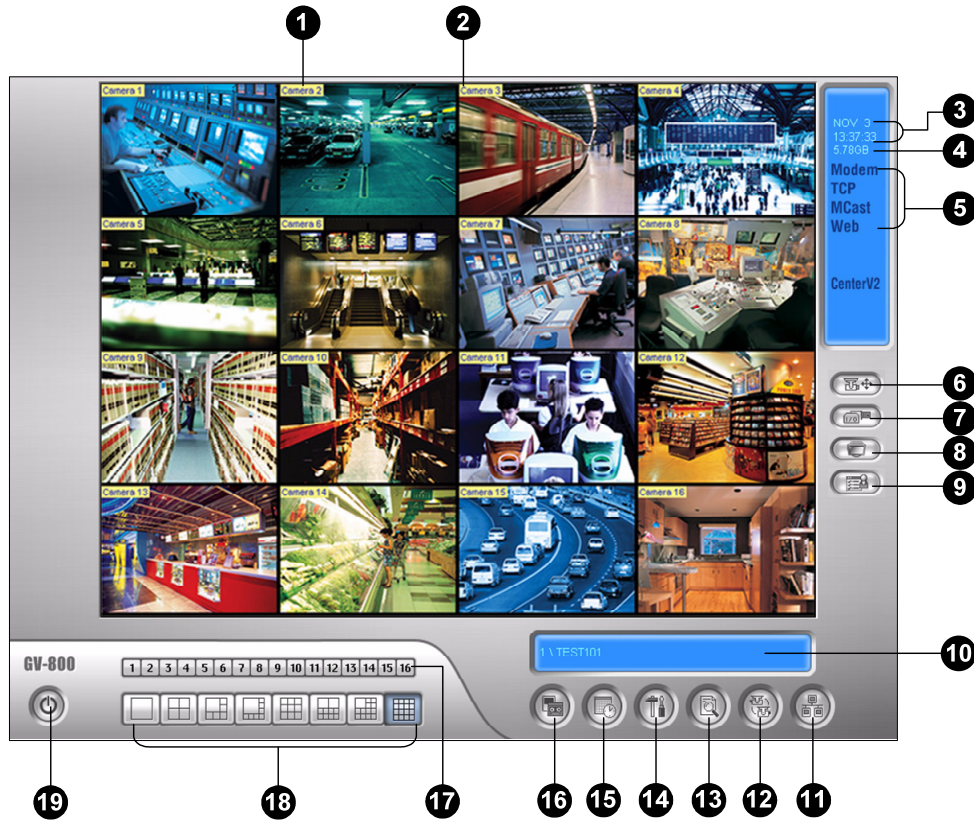

Figure 1-2
Press **[F7]** on the keyboard, or click the **Monitor** button (No. 16, Figure 1-2) to start recording. By default, every camera records with the following settings:
- To instantly play back the events of one single channel, click on the **Camera Name** (No. 2, Figure 1-2), and select the time length.
- To instantly play back the events of all channels, click on the **ViewLog** button (No. 13, Figure 1-2), select **Instant Play**, and select the time length.
You can configure cameras and global recording parameters. Click the **Configure** button (No.14, Figure 1-2), select **General Setting** and select **System Configure**. The following dialog box will appear.
- ⊙ **Monitor All:** Allows you to monitor all cameras and I/O (if available) at system startup. It is the same as to manually click **Monitor** button (No. 16, Figure 1-2) and select **Start All Monitoring**. (For details, see *Camera Monitoring* later in this chapter).
- ⊙ **Schedule Monitor:** Allows you to monitor cameras by schedule. Alternatively you may click **Schedule** button (No. 15, Figure 1-2) and select **Schedule Start**. Refer to *Recording Schedule* later in this chapter.
- ⊙ **I/O Monitor:** Allows you to monitor all I/O devices. Alternatively you may click the **Monitor** button (No. 16, Figure 1-2), and then select **I/O Monitoring**.
- **WebCam Server:** Allows connection to WebCam Server at startup. (Or click the **Network** button (No. 11, Figure 1-2) and select **WebCam Server**.)
- **Connect to VSM:** Allows connection to VSM Server (Or click the **Network** button (No. 11, Figure 1-2) and select **Connect to VSM**.)
- **Twin Server:** Allows connection to Twin Server at startup. (Or click the **Network** button (No. 11, Figure 1-2) and select **Twin Server**). For more details, see *Twin DVR System* in Chapter 11.
- **Connect to CenterV2:** Allows connection to CenterV2. (Or click the **Network** button (No. 11, Figure 1-2) and select **Connect to CenterV2**.)
1. Click the **Configure** button (No.14, Figure 1-2), point to **General Setting**, and then select **System Configure**.
4. To switch between the mini and normal view, click the **Configure** button (No.14, Figure 1-2), point to **A/V Setting** and select **Mini-View Switch**.